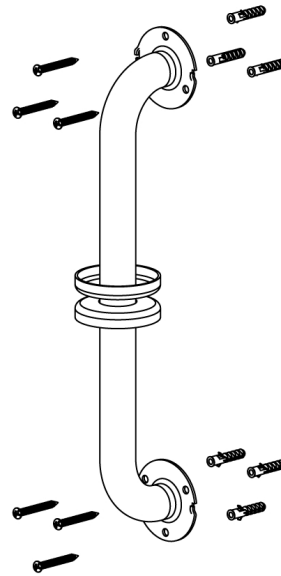

Fig.2
2. Place the grab bar in position on the wall and using the hole centres of each wall bracket as a template, mark the screw fixing positions on the wall surface. If fitting the product in a vertical or horizontal orientation it is important to ensure the grab bar is level. (See Fig.2)
5. Insert the screws through the holes of the wall brackets and screw to the wall. (See Fig.2)